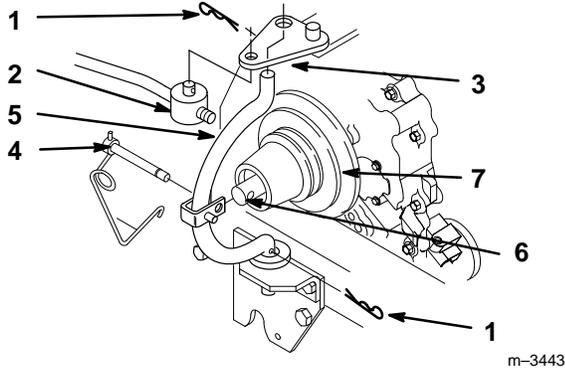

Figure 17
5. Remove hairpin cotters from trunnion and bottom of yoke (Fig. 17).
6. Unlatch and remove locking clevis pin that secures yoke assembly to clutch shaft. Pivot yoke out and forward to remove from clutch shaft and engagement plate (Fig. 17).
7. Place belt in inside pulley groove (Fig. 17).
8. Assemble yoke and engagement plate and attach locking clevis pin, trunnion and hairpin cottes to secure (Fig. 17).